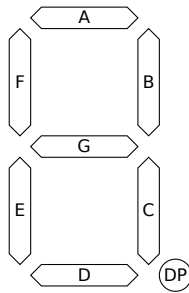

Figure 1: Labelling of a 7-segment digit including a decimal point (DP)
Let’s start with a quick example to get most users up and running. We will assume a 4-digit 7-segment common anode display. The segments in each digit are labelled A to G in the standard way as depicted in Fig. 1. Some displays also have an 8th segment for the decimal point (DP). This example assumes a display without that segment (see Sec. 3.3 for how to use `SevenSeg` with decimal points).
Defines the segments A-G (c.f. Fig. 1) to be connected to the Arduino I/O pins given by the variables with the same name. See Sec. 2 for example.
Specifies that the digits have a decimal point (DP) as depicted in Fig. 1, and that its segment is connected to `DPPin`. See Fig. 10 for an example of a display with a decimal point.